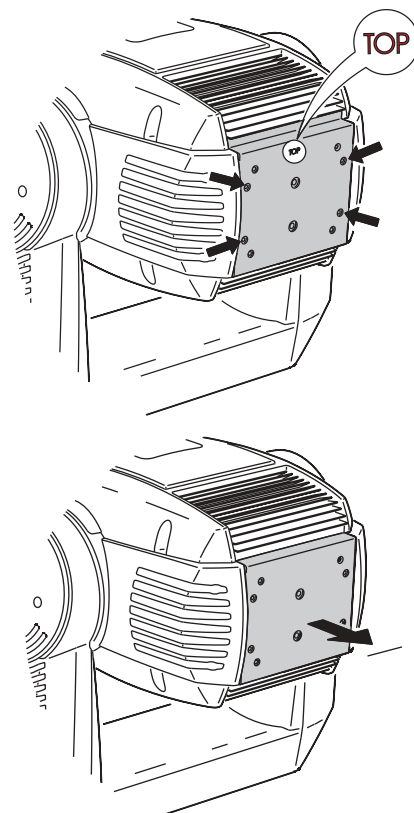

Figure 8: Lamp access
- 2 See Figure 8. Release the 4 quarter-turn fasteners marked with arrows on the rear plate. Pull the lamp assembly straight back as far as it goes and let it rest on its retaining pins.